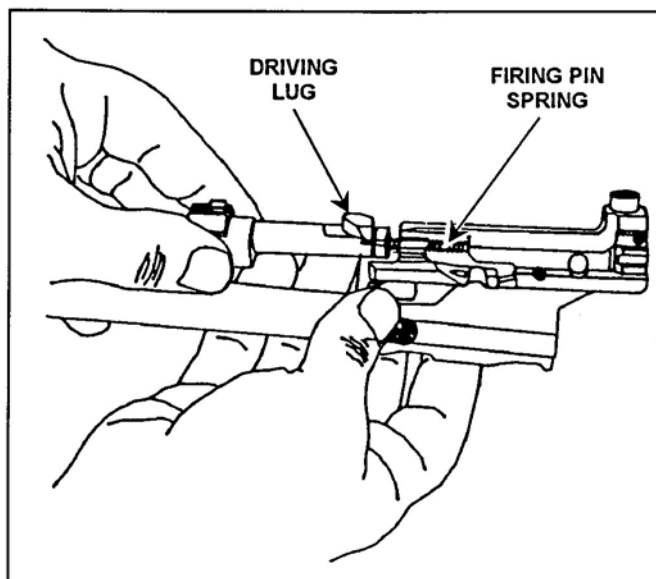

Figure 30. Attachment of the bolt assembly to the slide assembly.
- (2) Put the bolt assembly into the slide assembly. Press in to compress the firing pin spring. Rotate the bolt and hook its driving lug into the slide assembly (Figure 30).